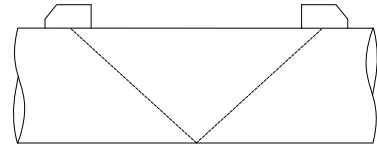

Fig. 3.7: Reflection arrangement
The transducers are mounted on the same side of the pipe (see Fig. 3.7).
- even if the measurement is conducted in the reflection arrangement (see Fig. 3.7).